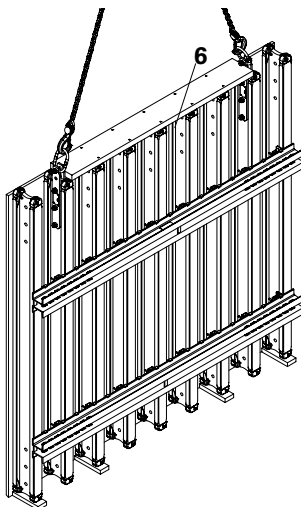

Fig. 2
6. Repeat steps one to five on the opposite side and attach the Compression Brace (6). (Fig. 2)